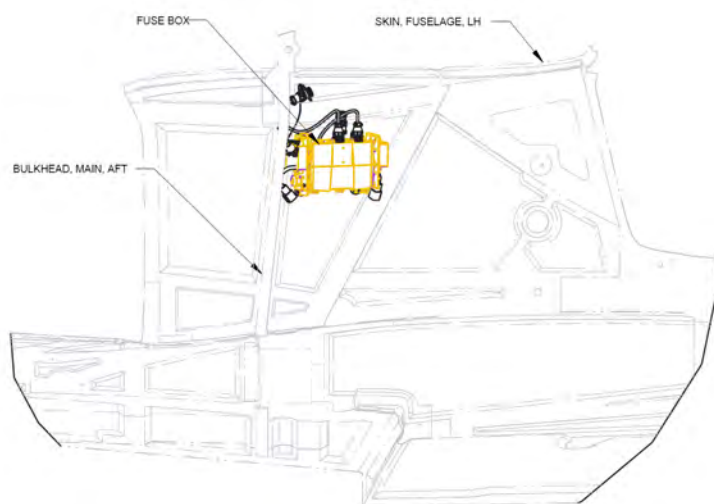

FIGURE 16-55
2. Locate the fuse box in front of the AFT bulkhead, LH as shown in Figure 16-55.